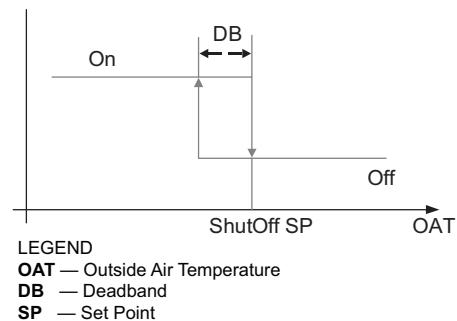

Fig. 69 — Hysteresis Settings
Hysteresis setting (DB) defaults to 2°F (-16.6°C). See Fig. 69.